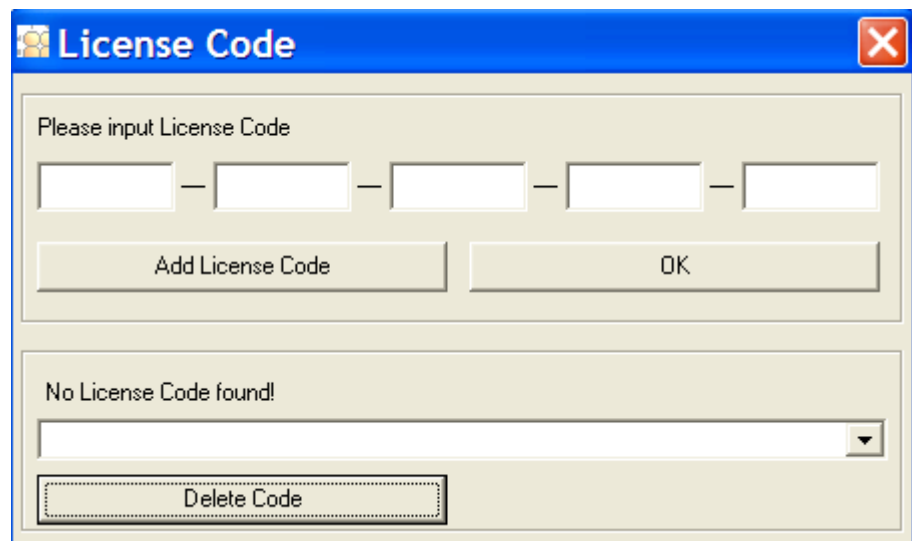

Figure 1-4: License Code
2. The first time the ADAP software is launched; License Code appears (Figure 1-4). If necessary, enter the 25-digit license code printed on the cover of the software CD.